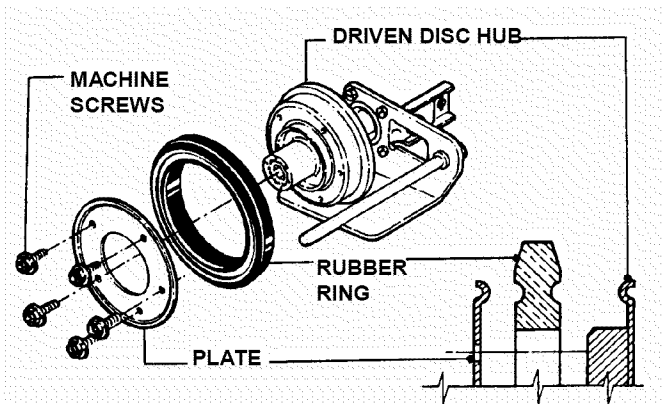

FIGURE 4.13
- Remove the five machine screws and plate which secure the rubber ring to the driven disc hub. See Figure 4.13.